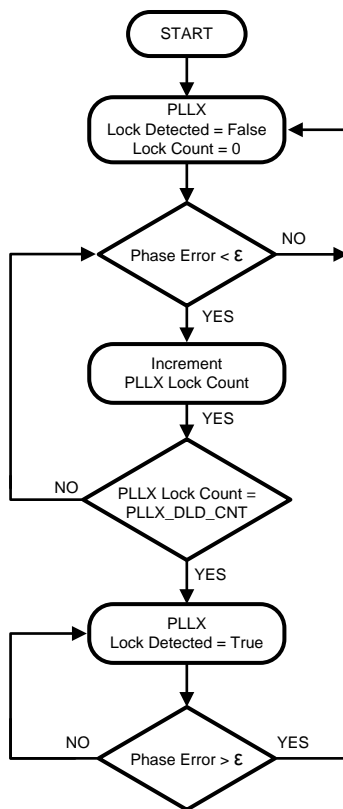

Figure 18. Digital Lock Detect Flowchart
Both PLL1 and PLL2 support digital lock detect. Digital lock detect compares the phase between the reference path (R) and the feedback path (N) of the PLL. When the time error, which is phase error, between the two signals is less than a specified window size (ϵ) a lock detect count increments. When the lock detect count reaches a user specified value lock detect is asserted true. Once digital lock detect is true, a single phase comparison outside the specified window will cause digital lock detect to be asserted false. This is illustrated in Figure 18.